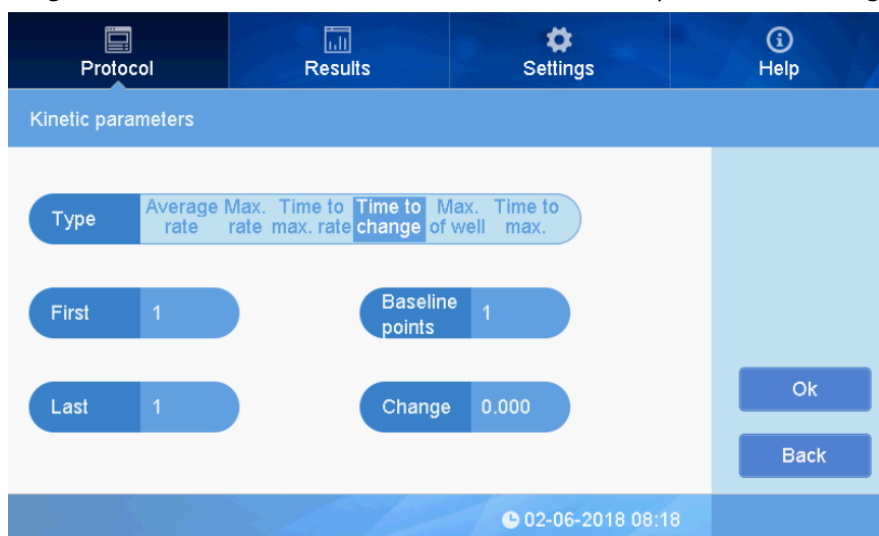

Fig 27
- ② When Kinetic is “On”, you may click “Readings”, and input the number of desired measurement readings. If one filter reading is used, the maximum number of kinetic readings to be recorded will be 219. If 2 filters are used the maximum number of readings is 99.
- ③ Click the hours, minutes or seconds on the “Interval” button to set the interval between each reading. The time format is: HH/MM/SS,
- ④ At the right side of the screen, click “Para...” to set the kinetic parameters, See Fig 27: